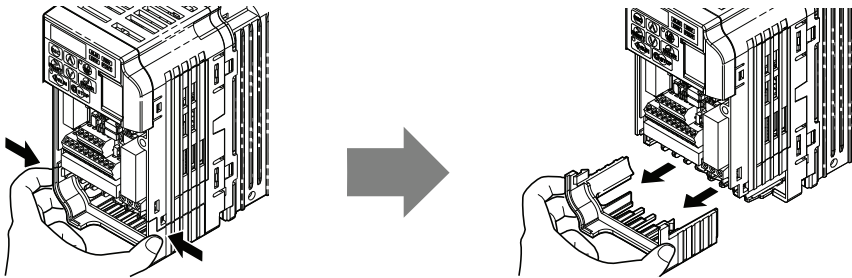
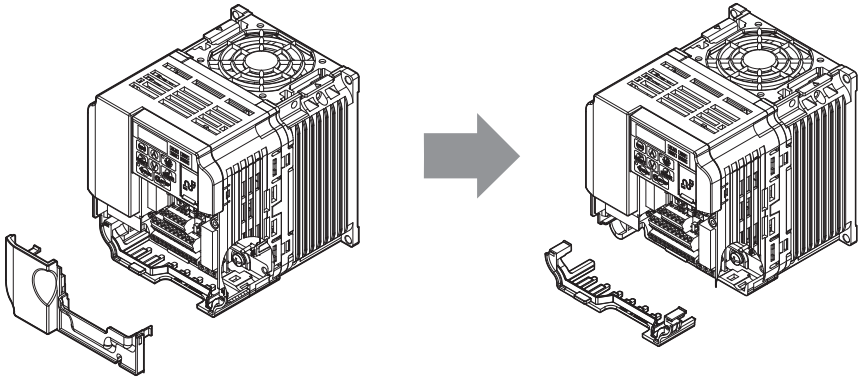

Figure 5 Remove the Bottom Cover on an IP20/Open-Chassis Drive (Models CIMR-V□□BA0001B to BA0003B and 2A0001B to 2A0006B)
Figure 6 Remove the Terminal Cover and Bottom Cover on an IP20/Open-Chassis Drive (Models CIMR-V□□BA0006B to BA0018B; 2A0010B to 2A0069B; 4A0001B to 4A0038B)
- For IP20/Open-Chassis models CIMR-V□□A□□□□B, Remove the bottom cover of the drive by applying pressure to the tabs on each side of the bottom cover. Pull the bottom cover away from the drive while pushing in on the tabs to release the cover from the drive. Refer to Figure 5 for details. Refer to Figure 6 for drive models CIMR-V□BA0006B to BA0018B, 2A0010B to 2A0069B, and 4A0001B to 4A0038B, which require removing the terminal cover prior to removing the bottom cover.